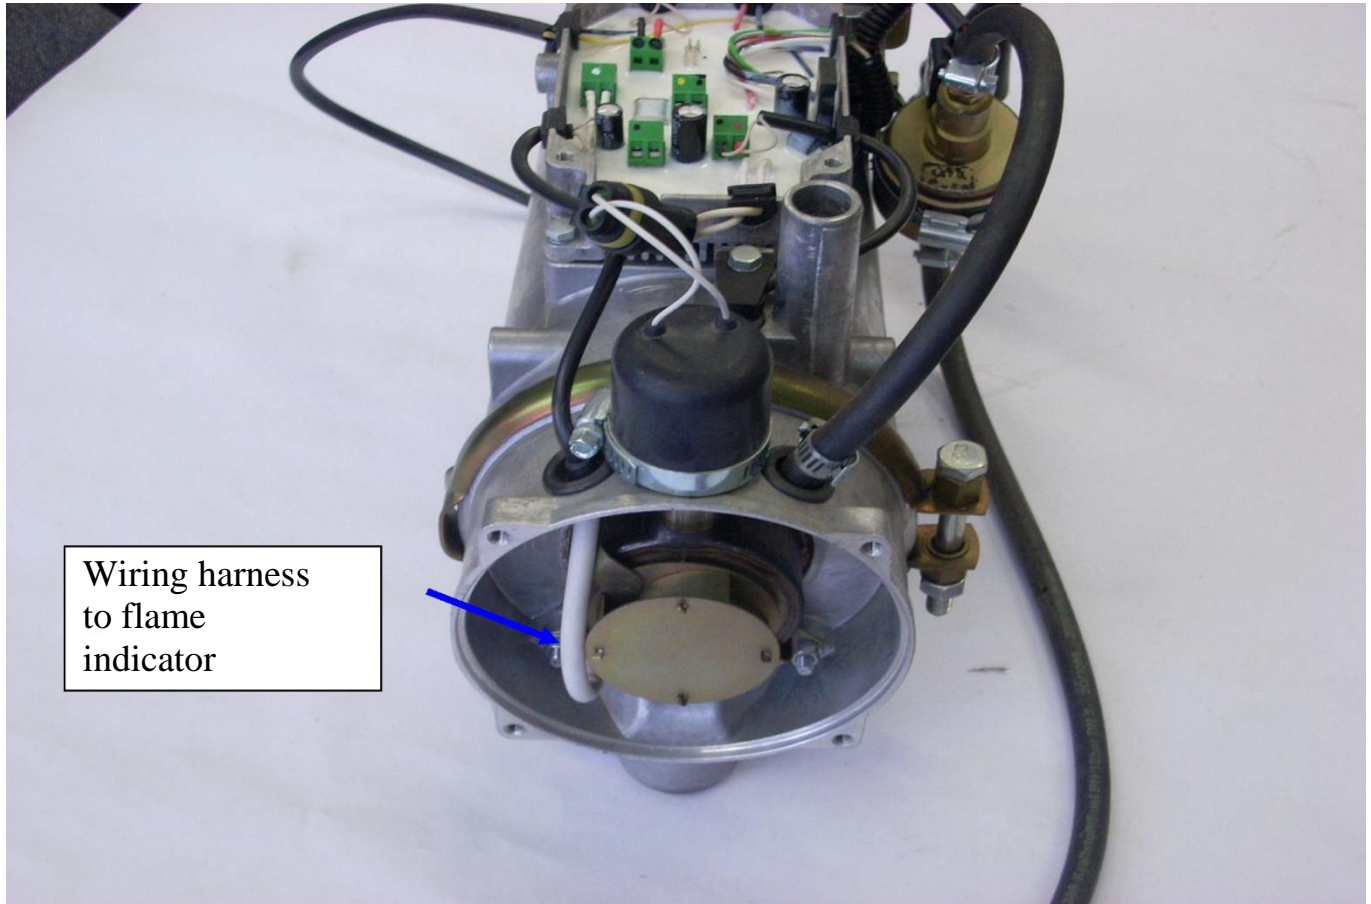

Fig. 10 - Heater with air blower removed to replace flame indicator
- unscrew the nut, remove the hold-down clamp from the indicator (see Fig. 10) and remove the flame indicator from the adapter;